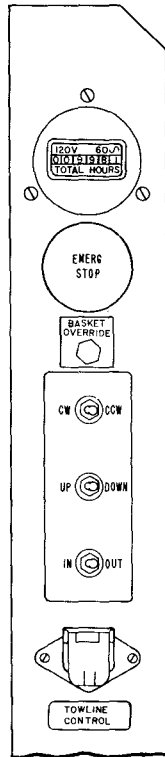

Fig. 9—Controls on Turret
2.03 On or near the lower (turret) control panel on all lifts is the ground control "override" switch (Fig. 9). It is used to deactivate the basket movement control panel should it be necessary to take control from an injured person aloft. When the override switch is placed in the "on" position, all subsequent lift movements are controlled from the turret (ground) control panel until the "override" switch is allowed to return to the "off" position.
the heel of the boom. Using the controls on the turret (Fig. 9), raise the boom from the carrying support, rotate the turret to place the boom at the side or rear of the truck, and lower it until the platform is approximately 4 feet above the ground.